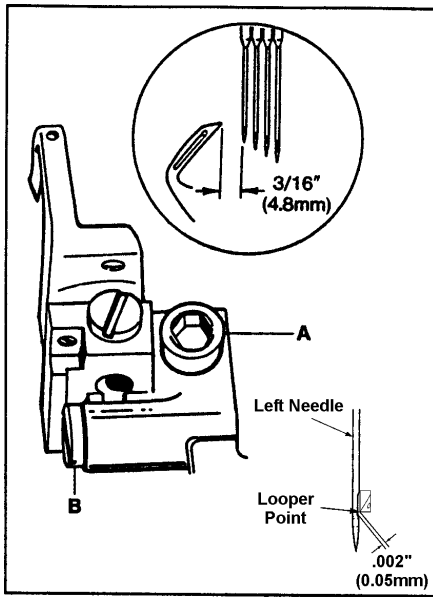

FIG. 15
Turn the handwheel in operating direction until the looper has traveled fully to the left. Loosen screw (A, Fig. 15) and move the looper holder to the right or left until the distance from the point of the looper to the center of the first (left) needle is  $3/16$ " (4.8mm). Clearance between the looper point and the scarf of the needle must not exceed  $.002$ " (0.05mm). Turn screw (B) until the  $.002$ " (0.05mm) dimension is achieved. Tighten screw (A).